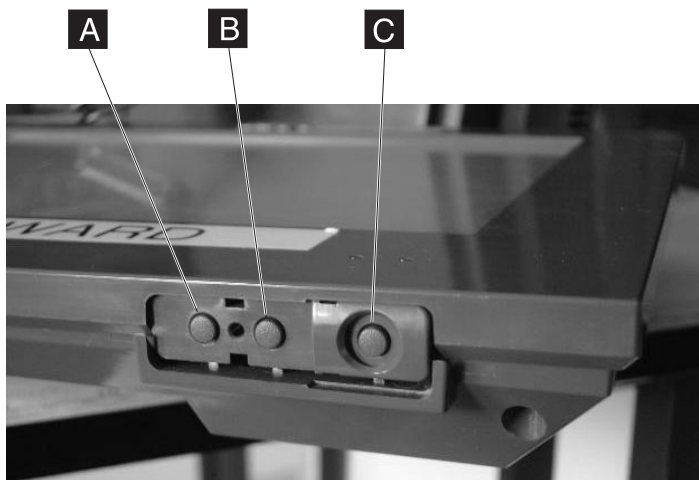

Figure 12. Location of power switch and screen brightness adjusting buttons
2. Power on the system using the power switch ( **C** in Figure 12). The power light-emitting diode (LED) appears green.